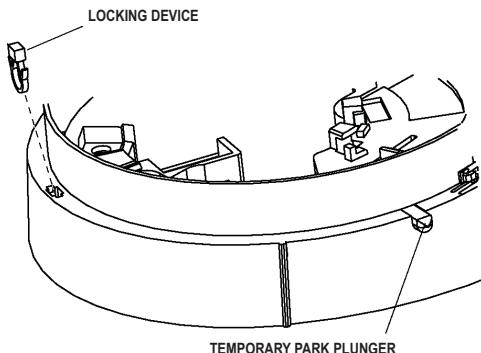

FIG. 6 Locking Device and Temporary Park Plunger
- ✉ Note:** for LPCB approval, detectors and caps must be locked into the sounder base using a locking device (Factory fitted). Ensure that the locking device is in place before fitting a detector or cap. See Fig. 6. The Volume Pot Blank Label must be fitted.